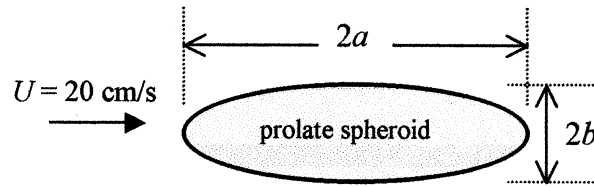

Fig. P7.52
**7.52** Clift et al. [46] give the formula  $F \approx (6\pi/5)(4 + a/b)\mu U b$  for the drag of a prolate spheroid in *creeping motion*, as shown in Fig. P7.52. The half-thickness  $b$  is 4 mm. See also [49]. If the fluid is SAE 50W oil at 20°C, (a) check that  $Re_b < 1$ ; and (b) estimate the spheroid length if the drag is 0.02 N.